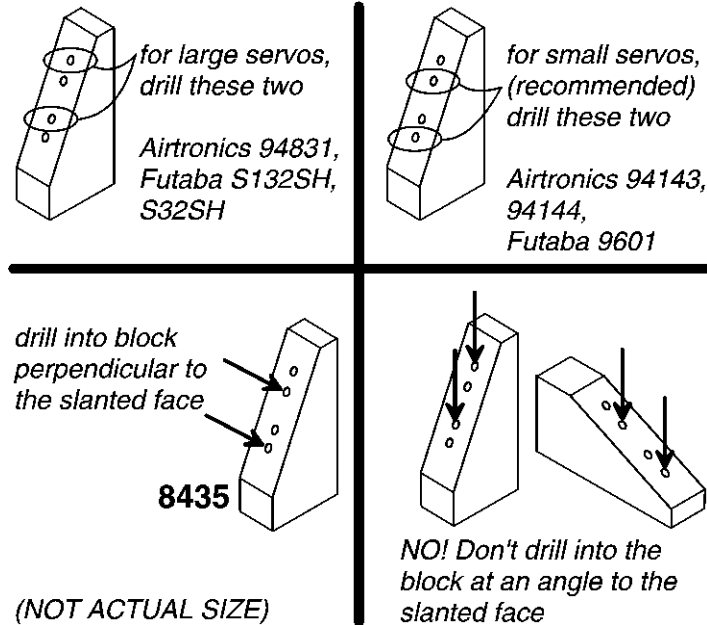

Fig. 75
**Figs. 75 & 76** Go back and take out bag #1 that we set aside early in our assembly. From this bag remove the two #8435 molded steering servo mounting blocks. The drawing below shows which holes to use with the different size servos. Now determine which mounting holes are correct for your servo. Take out your drill motor and #43 drill bit. (Remember if you could not find a #43 drill bit a 1/8" bit will work if you are very careful). Drill the correct two holes in each mount for your servo. Make sure the hole is perpendicular to the mounting face of the servo mounting block.